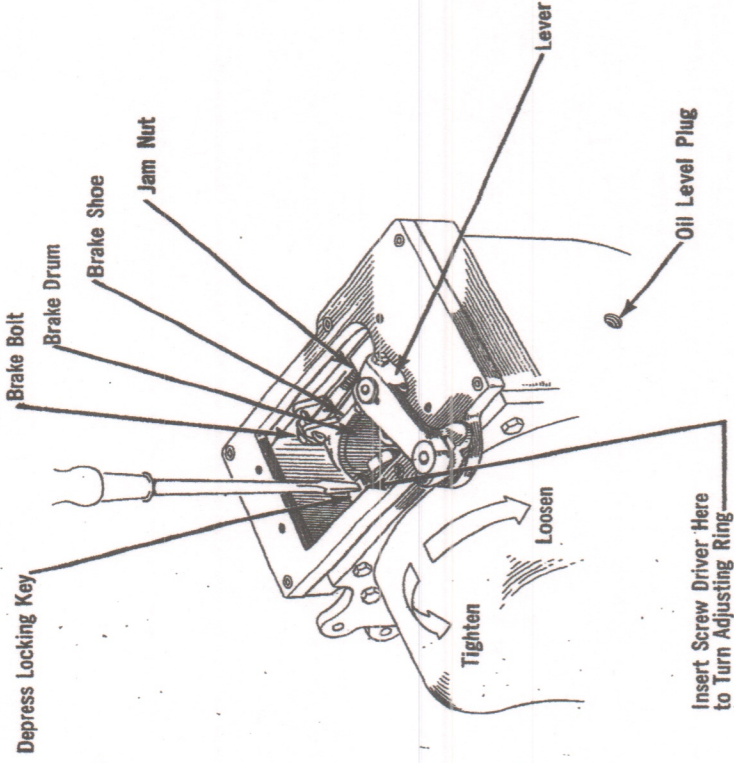

Figure 5. Reverse Gear Transmission Adjustments.
On reverse mowers the transmission oil level should be checked at regular intervals by removing the oil level pipe plug (fig. 5) located at the front side of the transmission case. The oil should be drained after the first 10 hours of operation (the drain plug is located at the bottom of the transmission), and refilled to overflow at the oil level plug with Type A Transmission oil. Additional changes of oil should be made after each 100 hours of operation. The transmission requires only 12 ounces of Type A Transmission oil.
2. Make certain that the clutch lever is in the neutral position with the ball check in the groove of this lever (figure 5).
4. Roll the machine forward or backward until the locking key is on top. Use a screw driver as shown in figure 5, depress the key which locks the adjusting ring in one of the notches cut in the internal gear.
5. Turn the adjusting ring in the direction of the arrow as shown in figure 5 and allow the key to snap into the next notch cut in the internal gear. Adjust the clutch only one notch at a time.
To adjust the wear of the reverse brakeband, loosen the jam nut on the brake bolt (figure 5) and take up about one full turn on the brake bolt until the brake drum still turns freely when the clutch lever is in the neutral position and the clutch shifting fork has moved the flange of the clutch cone just up to the hub of the brake drum. Then the brakeband should start to grip the drum when the clutch lever is pulled back for the reverse to operate.